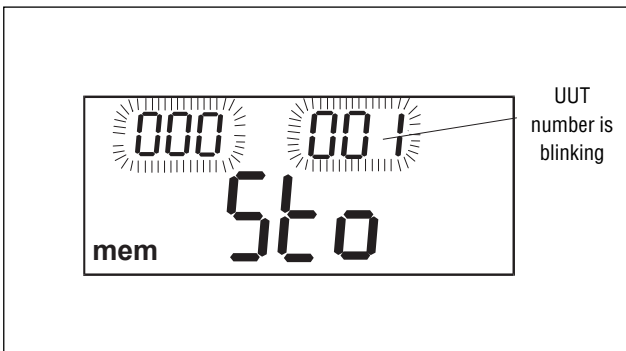

Fig. 9.4
- Press the **ENTER** key to confirm the **Customer Number**. Now, the **UUT Number** is displayed according to Fig. 9.4.